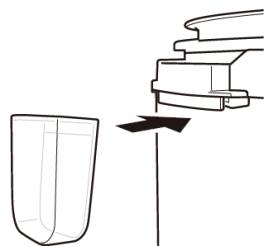

Fig 1
- Place the condensate container in the appliance as shown in the Fig. 1.
1. Scan QR code, see below (fig. 1) or find Concept Home app in Google Play or App Store and download the app to your smartphone. If you already have Concept Home, open the app, log in and follow the instructions for correct pairing.